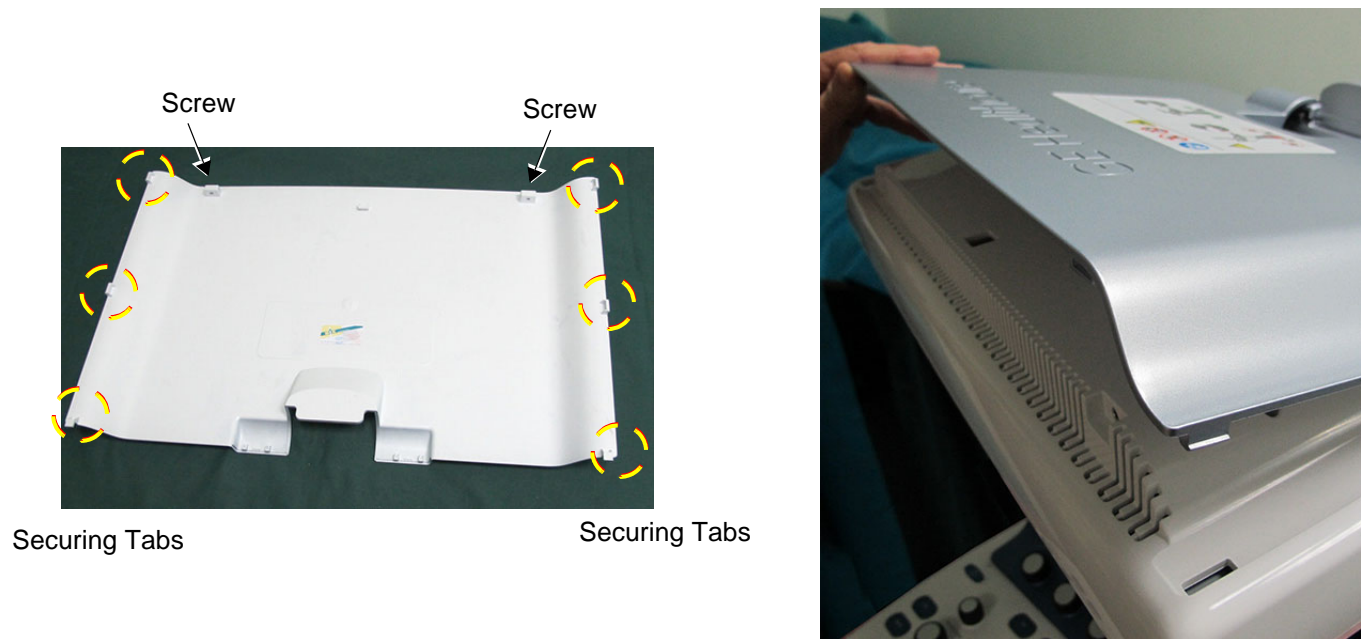

Figure 8-36 Removing the Monitor Service Cover
4.) Lift the service cover up, carefully releasing it from the 3 securing tabs on each side (Figure 8-36).